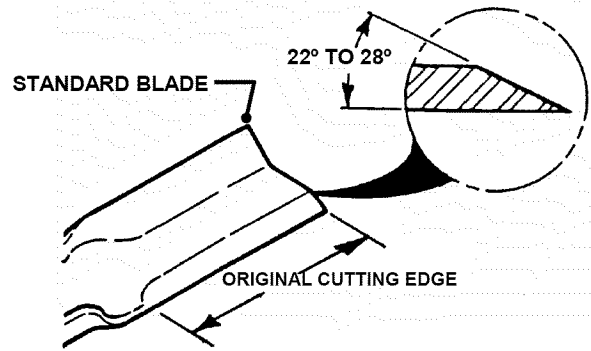

FIGURE 4.25
5. If a blade is in good condition, sharpen cutting edge at an angle of 22 to 28 degrees. DO NOT sharpen beyond existing cutting edge. Replace blades not in good condition. See Figure 4.25.